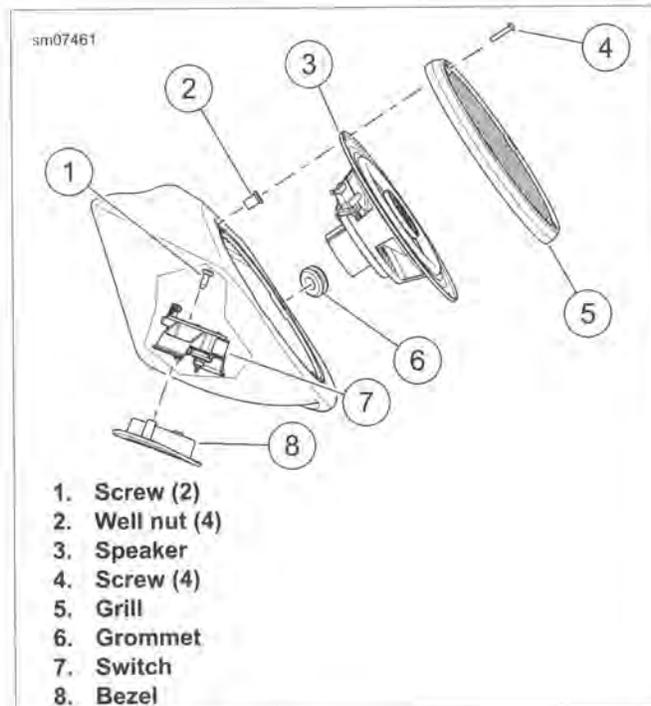

Figure 7-89. Rear Speaker (typical)
1. See Figure 7-89. Remove four screws (4).
- a. Remove well nut (2) to access switch screw.
5. See Figure 7-89. Install cable strap on harness next to inside of grommet (6) to act as strain relief.